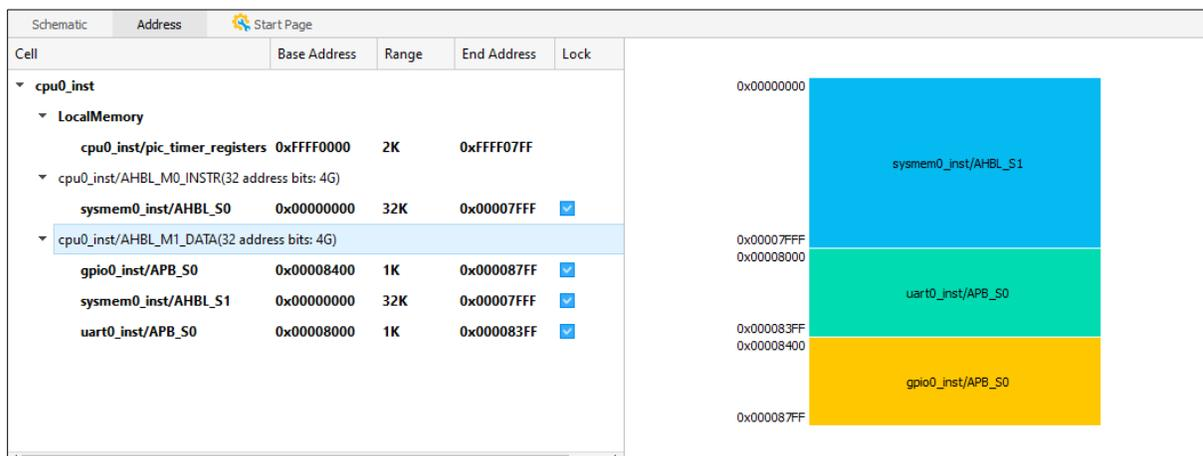

Figure 2.71. Address View
1. In the Propel Builder main window, click the Address tab. The Address view (Figure 2.71) shows.